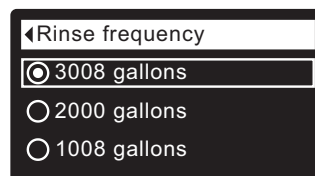

FIG. 73
7. Press the SELECT (O) button to display the desired special feature screen (See Figures 73 & 74).
If the desired rinse frequency already has a dot next to it (See Figure 73), go to Step 9. Otherwise, press the DOWN (▼) or UP (▲) buttons to scroll to the desired rinse frequency, then press SELECT (O) to choose it.